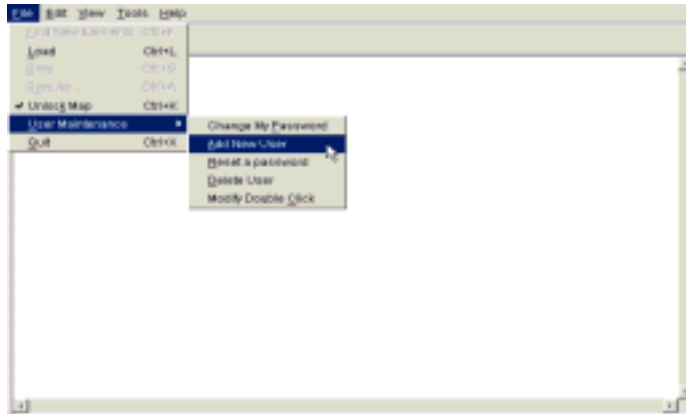

Figure 11. Add New User Menu Selection
- a. Select **File>>User Maintenance>>Add New User** from the top menu bar as shown in Figure 11).